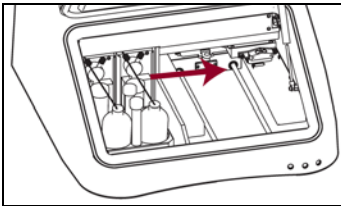

Figure 21
6. Return the optical head to the home position. (See Figure 21.)